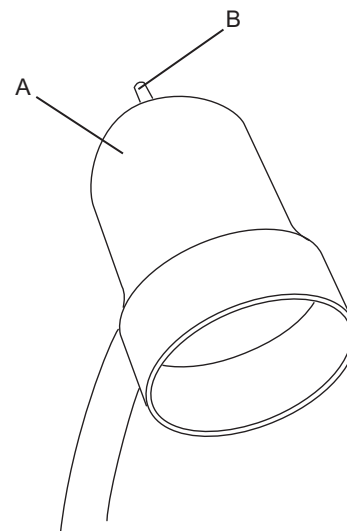

Figure 8 - Work light ON/OFF switch and housing.
The flexible work light may be turned "ON" or "OFF" by using the rotary switch (B) on the top surface of the housing (A). The switch can be rotated in the clockwise direction only. See Figure 8.